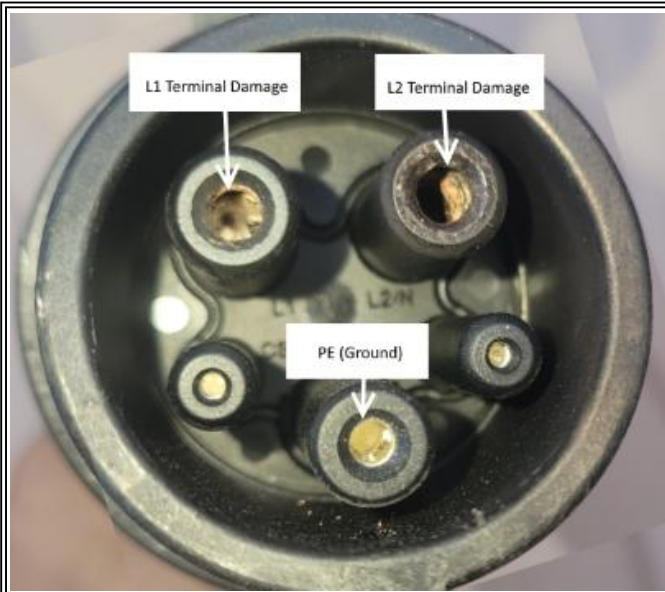

Figure 1: Charger Gun Terminal Damage
1. Visually inspect the charger gun terminals for damage as shown in Figure 1 and 2.